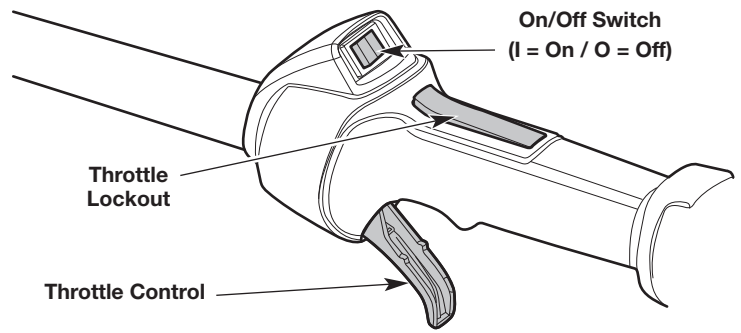

Fig. 11
NOTE: There is no need to turn the unit on. The On/Off switch is in the **On (I)** position at all times (Fig. 11).
3. Press and hold the throttle lockout (Fig. 11). Squeeze and hold the throttle control (Fig. 11).
2. Press and hold the On/Off switch in the **Off (O)** position until the engine comes to a complete stop (Fig. 11).
4. Press and hold the throttle lockout (Fig. 11). Squeeze and hold the throttle control (Fig. 11).